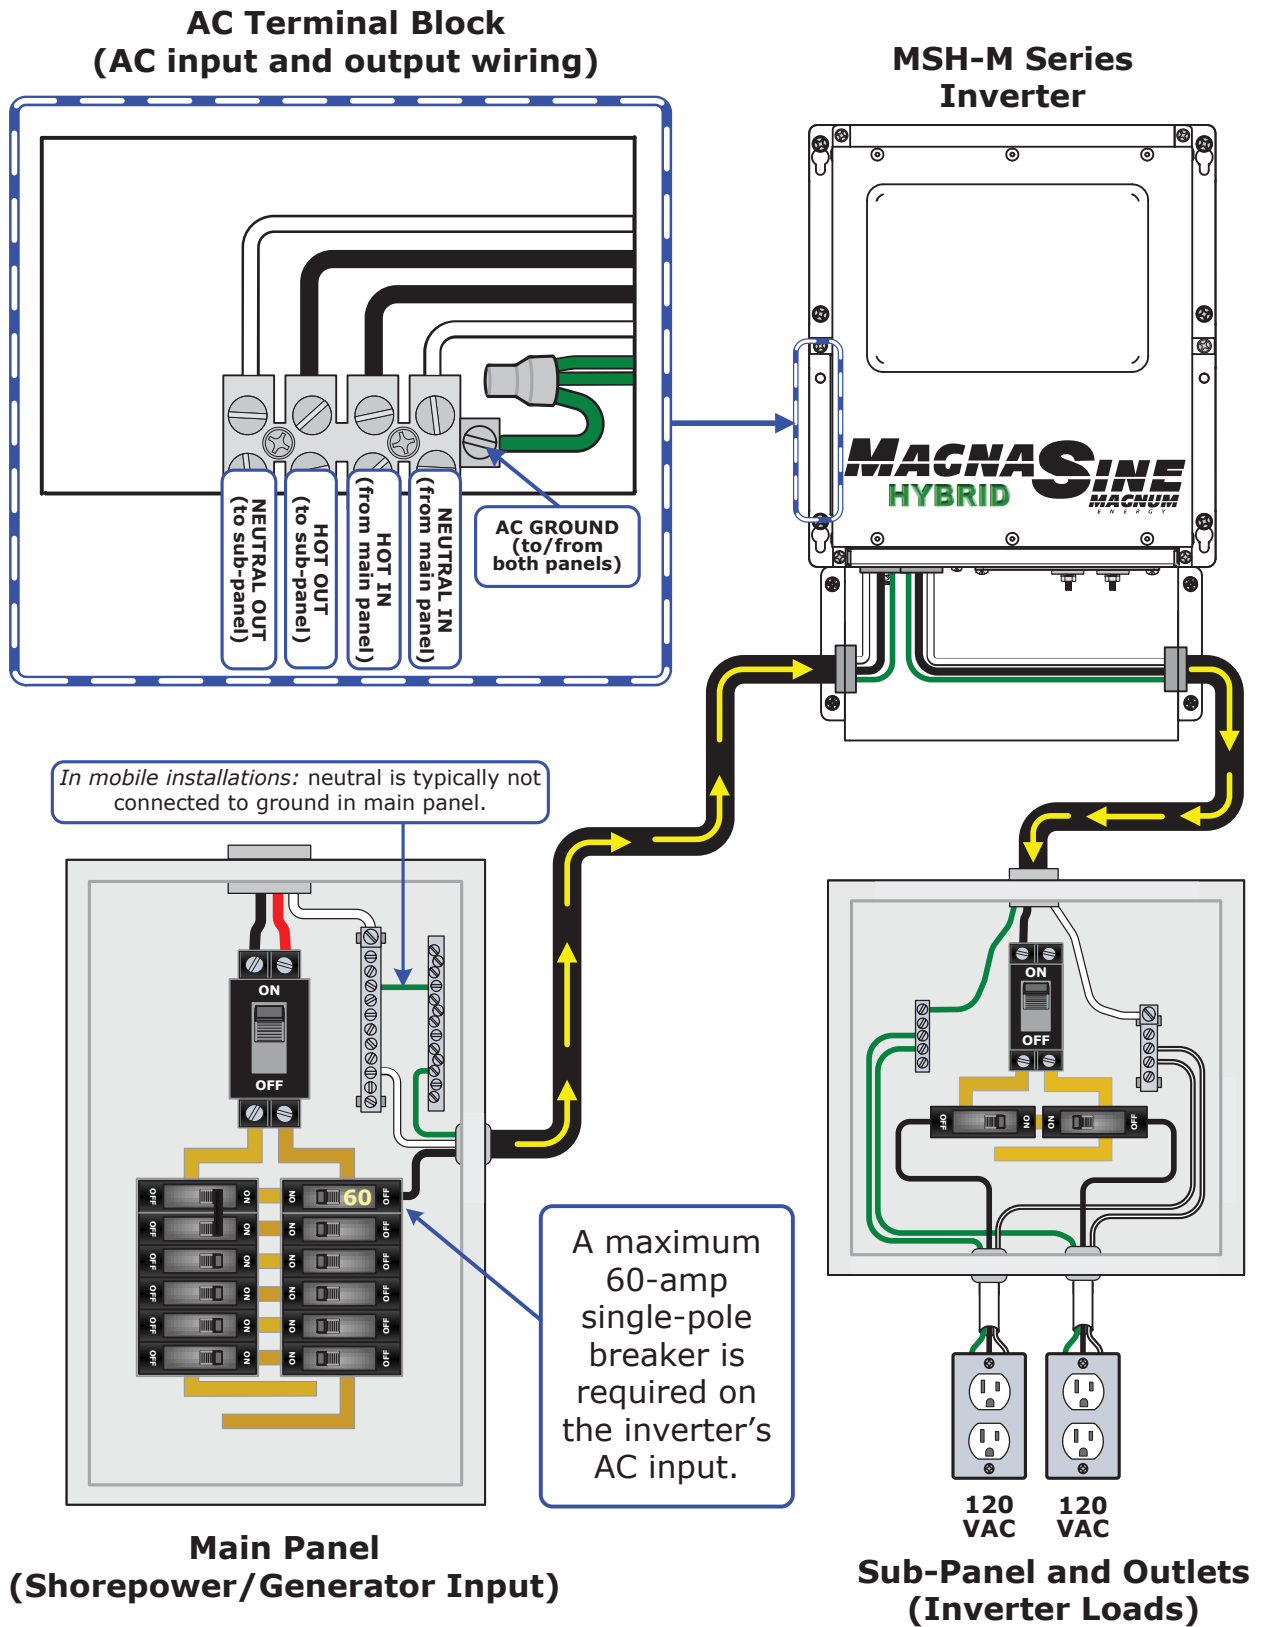

Figure 2-9, AC Wiring
1. Route the wires (HOT, NEUTRAL, and GROUND) from the AC electrical main panel through one of the strain relief clamps on the inverter (Item 8, Figure 1-2). Tighten the strain relief clamp securely on the wires. Always leave a little extra slack in the wiring. Refer to Figure 2-9 for this procedure.